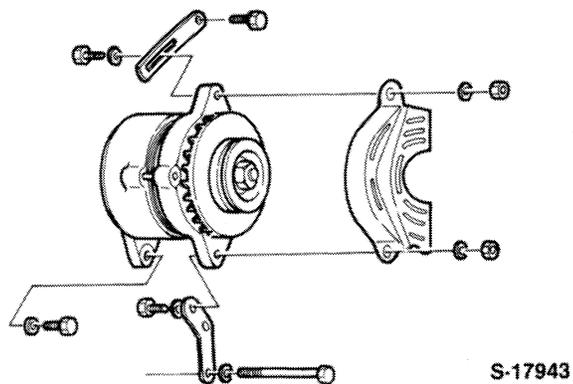

Figure 35
3. **Models 1510 and 1710 only:** Remove the alternator assembly, Figure 35.